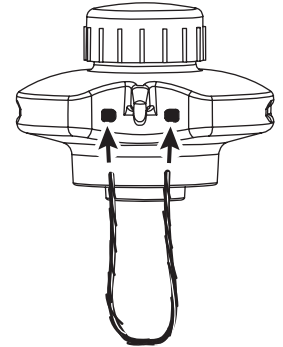

Fig. 13
1. Insert each end of the replacement line into the holes on either side of retention hook (Fig. 13).